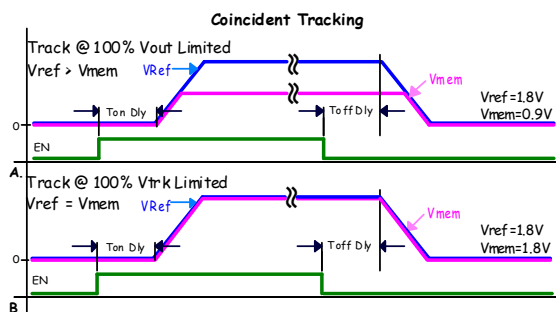

FIGURE 15. COINCIDENT TRACKING
The ZL9101M offers two modes of tracking: coincident and ratiometric. Figures 15 and 16 illustrate the output voltage waveform for the two tracking modes.
1. Track at 100% VOUT limited. Member rail tracks the reference rail and stops when the member reaches its target voltage, Figure 15 \(A\).
2. Track at 100% VTRK limited. Member rail tracks the reference at the instantaneous voltage value applied to the VTRK pin, Figure 15 \(B\).